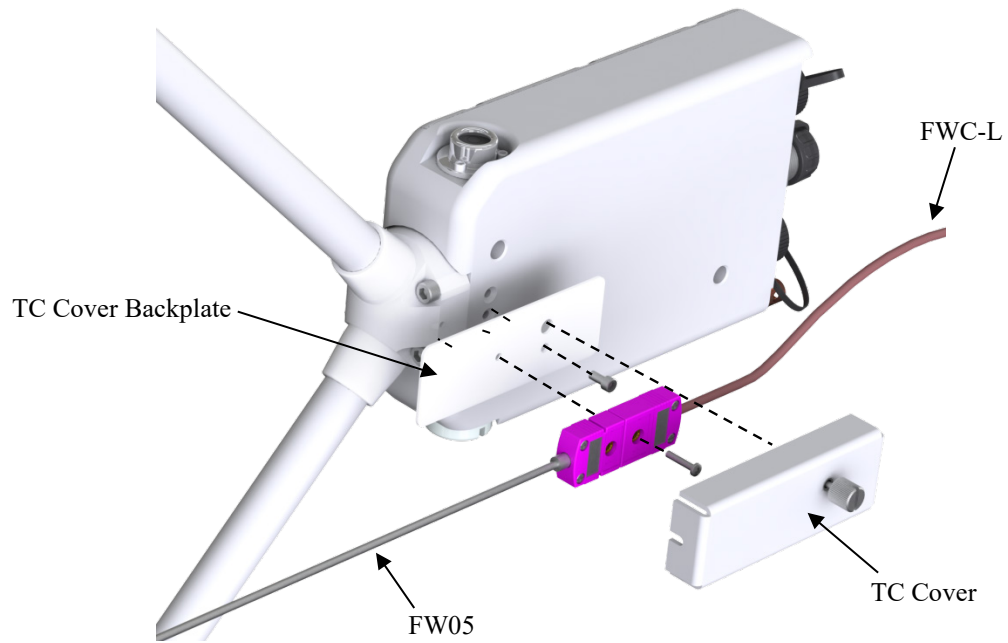
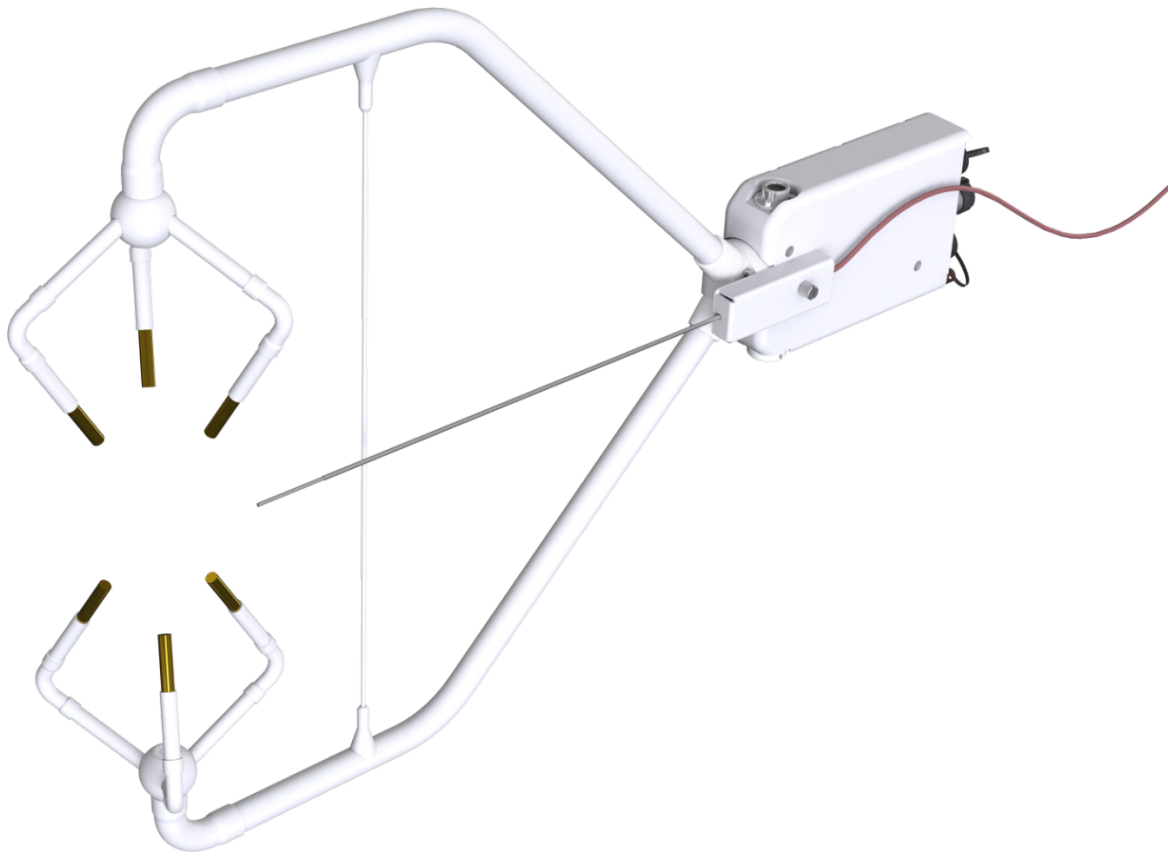

FIGURE 7-8. Exploded view of fine-wire thermocouple (TC) with CSAT3B
FIGURE 7-9. CSAT3B with fine-wire thermocouple mounted
First, attach the thermocouple (TC) cover backplate to the CSAT3B with the screw that was included. Next, attach the female connector from the FWC-L to the side of the anemometer with the short screw (#2-56 x 0.437 inch) that was provided with the white thermocouple cover. Insert the male connector of the FW05 into the female connector of the FWC-L. Finally, attach the thermocouple cover to the anemometer block using the thumb screw so that both the FW05 and FWC-L connectors are covered. See FIGURE 7-8 for positioning and FIGURE 7-9 with the FW05 fully installed.